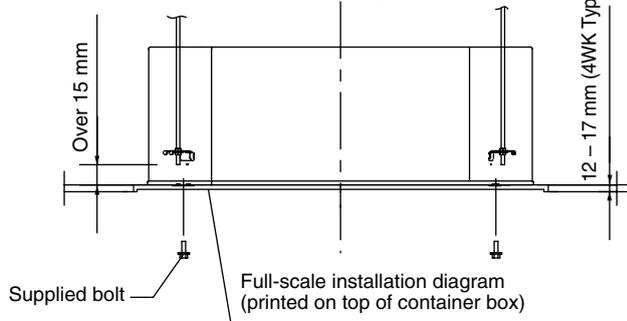

Fig. 3-4
- (1) When placing the unit inside the ceiling, determine the pitch of the suspension bolts using the supplied full-scale installation diagram. (Fig. 3-4)
- (2) The length of suspension bolts must be appropriate for a distance between the bottom of the bolt and the bottom of the unit of more than 15 mm (Fig. 3-4).